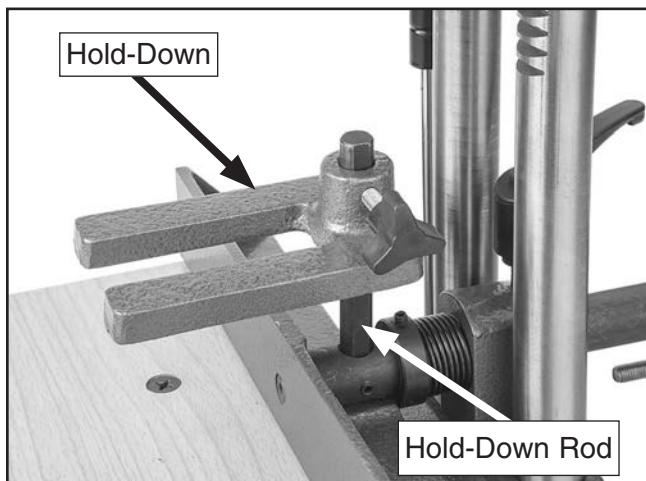

Figure 14. Hold-down installed on rod.
9. Slide hold-down onto rod and secure by turning molded knob clockwise (see **Figure 14**).